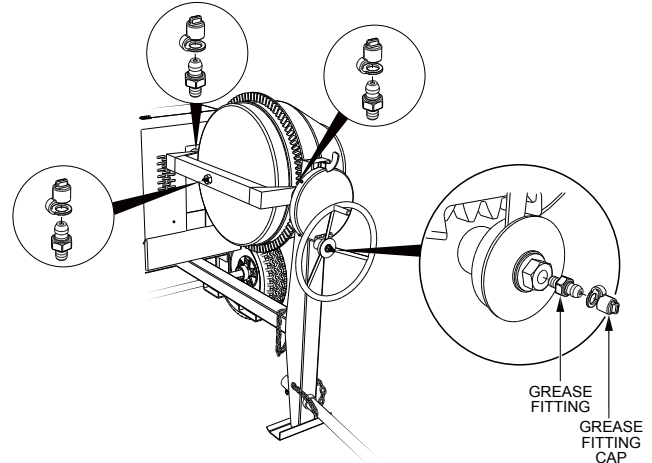

Figure 37. Grease Fittings (Mixer)
1. There are **four** grease (Figure 37) fittings that will require lubrication. Lubricate these fittings **once a week**. Use lithium base grease, grade NO.1.